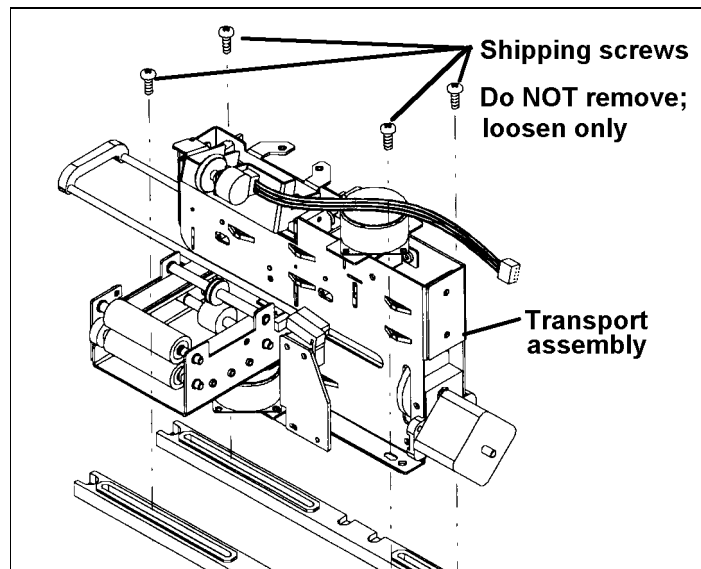

Figure 2-35. ImageCard II Shipping Screws
3. Loosen the four shipping screws securing the transport assembly (Figure 2-35).
- c. Transport assembly (Figure 2-35) moves to far right